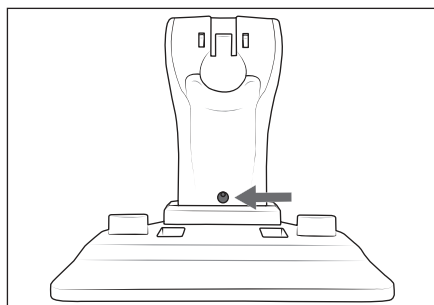

Fig. 1
- 1) Use the opening in the appliance cradle ㉒ to draw the hole on the wall (Fig. 1).
- 3) Plug the barrel plug ⑰ of the mains adapter ⑮ into the charging socket ⑲ on the underside of the charging station ㉑. Feed the cable of the mains adapter ⑮ through one of the side recesses on the rear of the charging station ㉑, depending on which side the power outlet is located.
- 4) Insert the screw through the opening in the appliance cradle ㉒ (Fig. 1) and screw it into the wall plug with a Phillips screwdriver.
- 3) Insert the screw **12** into the screw hole at the back of the handle rod **11**. Tighten the screw **12** with a Phillips screwdriver by turning it clockwise (Fig. 1).